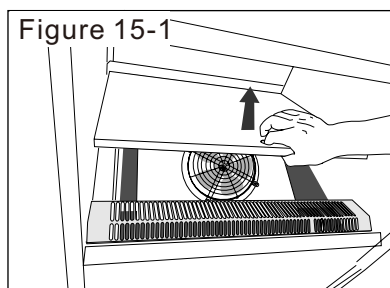
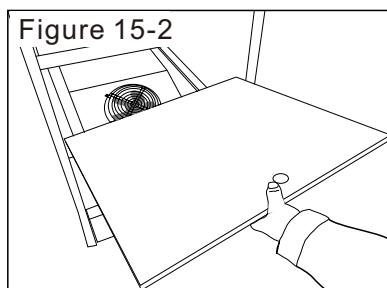

Figure 15-1
Figure 15-2
Step 2: Having emptied the bottom layer of displayed products, carefully remove the Evaporator Cover. (Figure 15-1 and Figure 15-2)